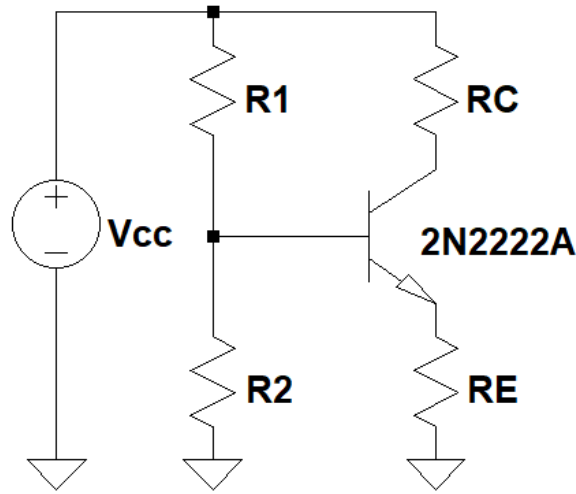

Figure 3 DC circuit for common base amplifier
1. Connect the circuit as shown in Figure 3.